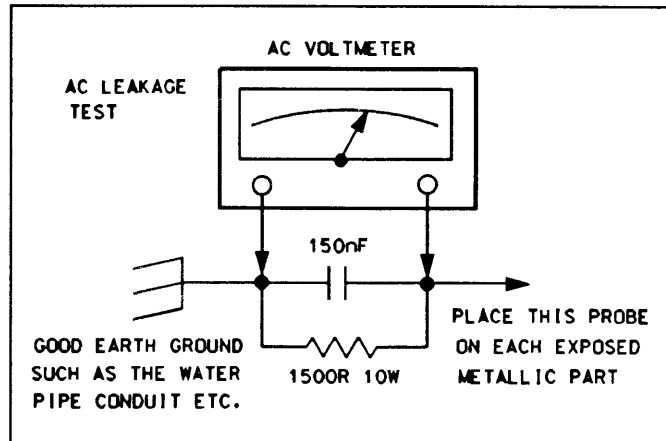

FIGURE 4-3. AC Leakage Test
b) Connect a 1500  $\Omega$ , 10 watt resistor in parallel with a 150nF AC capacitor between a known good earth ground and each exposed metallic part, one at a time. With an AC voltmeter having a minimum sensitivity of 1000  $\mu$ /V, measure the voltage across the 1500  $\Omega$  resistor. See Figure 4-3. The rms voltage measured **MUST NOT**